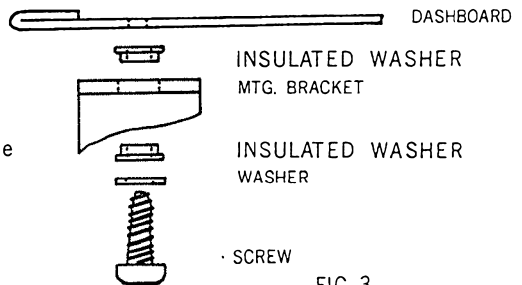

FIG. 3
c) The mounting bracket must be isolated from the chassis of the vehicle in such a manner as shown in Fig. 3.